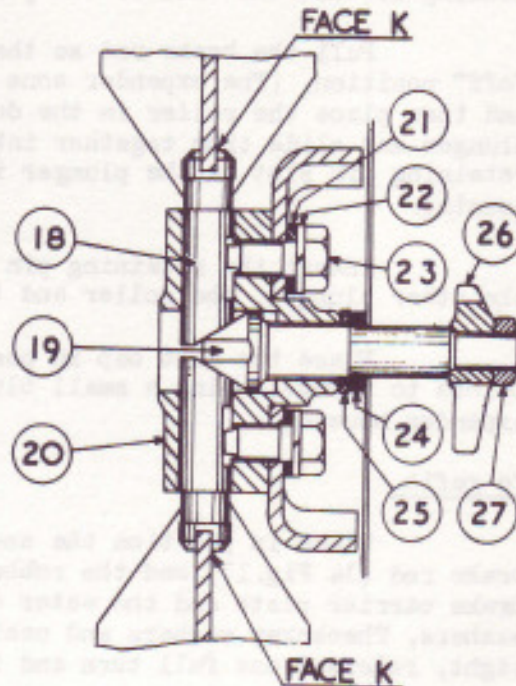

FIG. 17. SECTION THROUGH REAR BRAKE ADJUSTER.
Pull the brake rod so that the expander cone is about $\frac{1}{4}$ " from the "off" position, (The expander cone is shown in the "off" position in Fig.17) and then place the roller in the deep end of the inclined slot of the plunger and slide them together into one of the plunger bores, with the retaining pin slot in the plunger in line with the corresponding hole in the housing.
Place in position the assembled expander unit by threading the brake rod (14 Fig.17) and the rubber dust cover (13), through the hole in the brake carrier plate and the water excluder, and attach by means of the plain washers, Thackeray washers and castellated nuts. The nuts must be screwed tight, released one full turn and then secured with a new split pin of the correct size.
Remove the two setscrews and spring washers (23 and 22 Fig.17) and the plain washer (21) and then withdraw the adjuster from the brake carrier plate.
It will be observed upon reference to Fig.17 that the setscrews also locate the plungers and it is important to note that the ends of the setscrews do not nip against the flats on the plungers. This can be checked by slightly rotating the plungers which will indicate the clearance.
- (ii) Slacken one complete turn the two hexagon headed screws (78, Fig.13, and 23, Fig.17), holding the adjuster unit to the carrier plate, thus enabling the unit to rotate slightly on its spigot. (In the case of the rear brakes, place the hole in the water excluder over the adjuster screw, noting that the two washers (24 and 25, Fig.17) are in position. Replace the hand wheel (26), tighten up and secure with the locknut (27). Do not attach the water excluder to the carrier plate at this stage.)
The faces of the steady brackets which contact the brake shoe webs should be in the same plane, i.e., in line with the side faces of the shoe slots in the expander and adjuster plungers on the side of the slots nearer to the carrier plate, faces M and N (Fig.13) for the front brakes and faces J and K (Fig.17) for the rear brakes. While it is permissible, however, for the faces of the steady brackets to be up to .015" below this plane (nearer to the carrier plate), they must never be above it (away from the carrier plate) as this would cause uneven bedding across the width of the shoes.